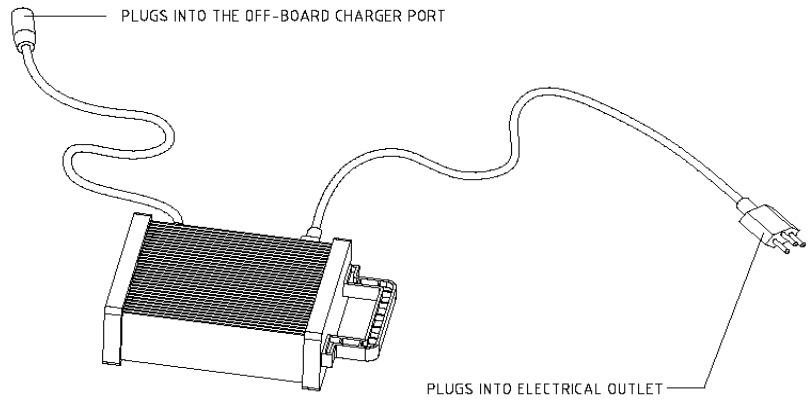

Figure 8: Battery Charger
CHARGING BATTERIES (see Figure 8)
1. Squeeze the tiller adjustment lever. See figure 8.